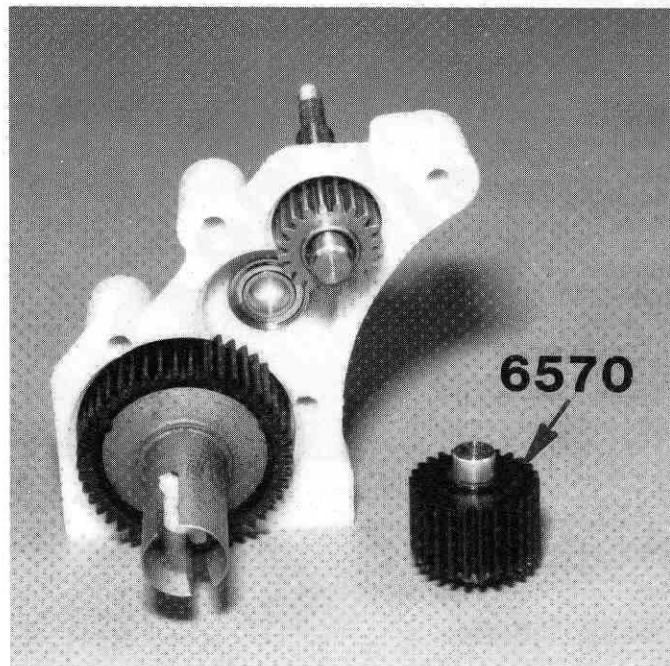

Fig. 54
□ **Fig. 54** Now carefully slip the #6570 from Bag D idler gear into the center bushing.